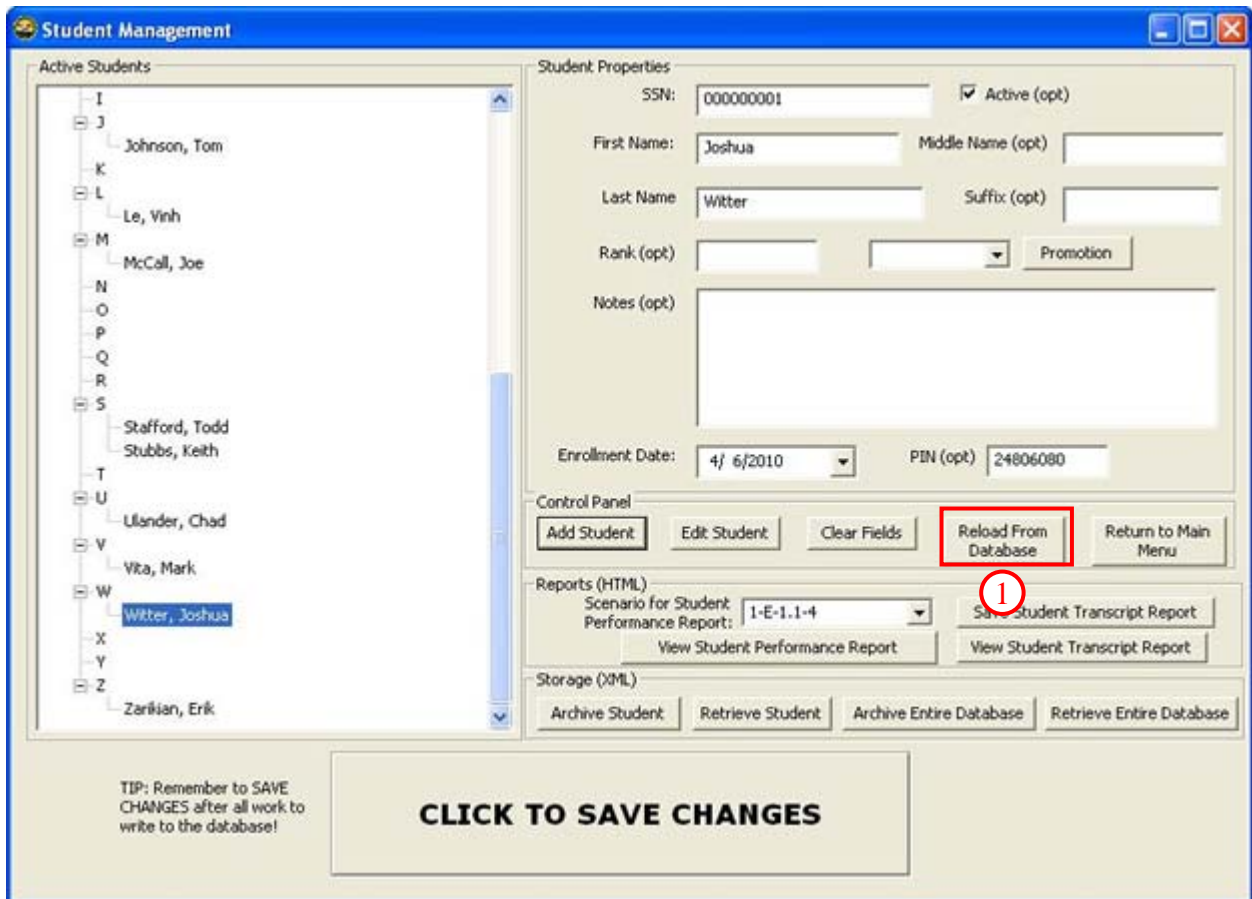

Figure 67. Student Management - Reload From Database
1. Click the [RELOAD FROM DATABASE] button to reload all data from the database (Figure 67).